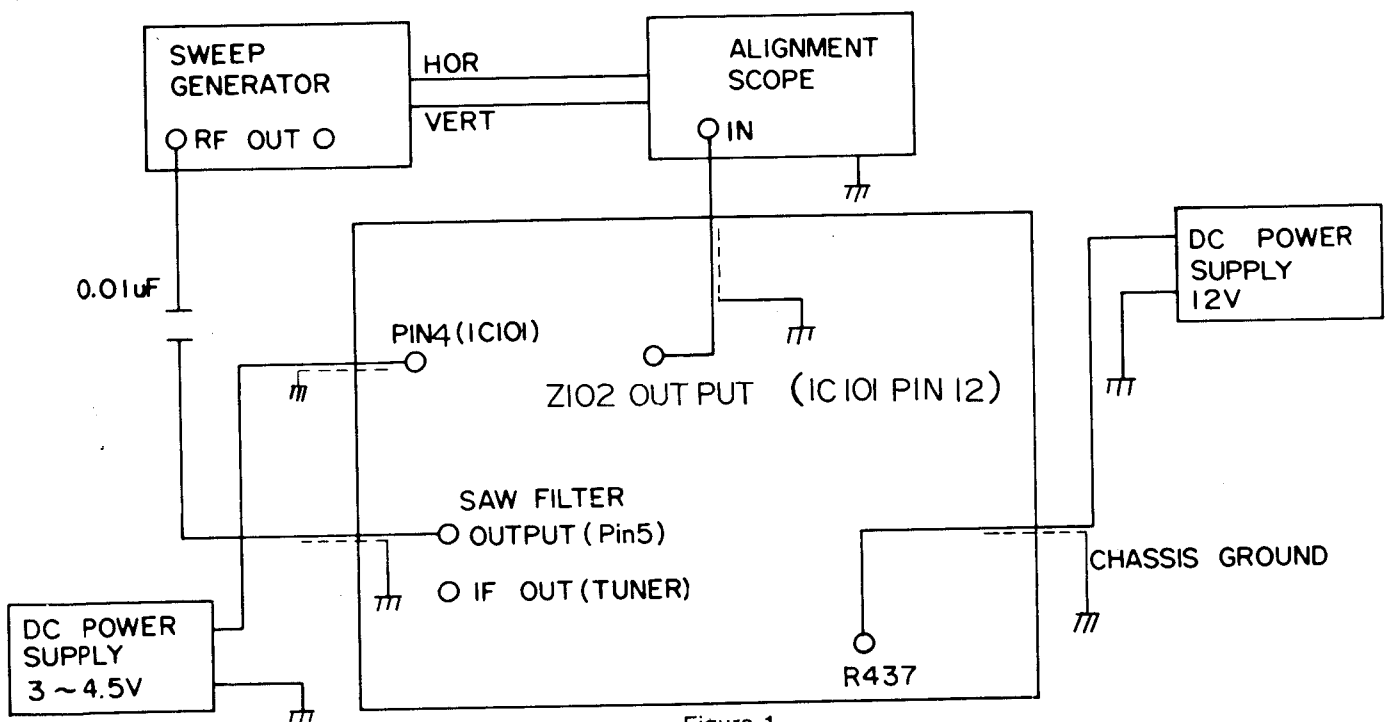

Figure 1
- a) Do the connection as shown in figure 1 and then DC power suppliers on.
- The connection of alignment is the same as figure 1 but connect RF OUT of the SWEEP GENERATOR to TURNER IF OUTPUT terminal of Main PCB.